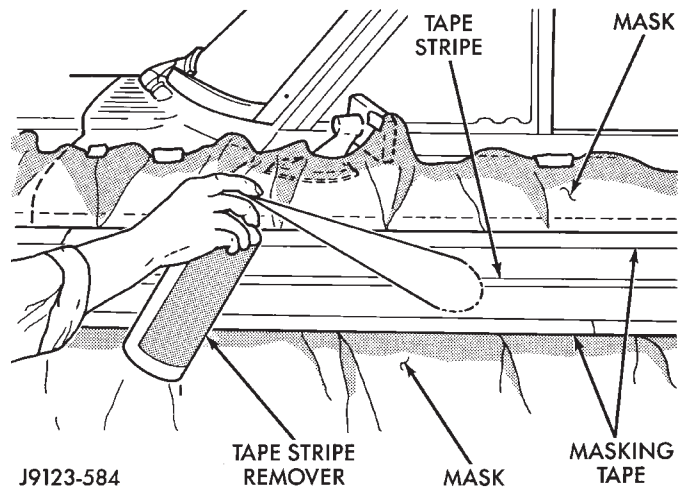

Fig. 61 Stripe/Decal Removal Solution Application
(3) A commercial tape stripe/decal removal solution can be used for stripe/decal removal at areas where a heat gun is ineffective:
- mask-off the body panel area surrounding the tape stripe/decal (Fig. 61);